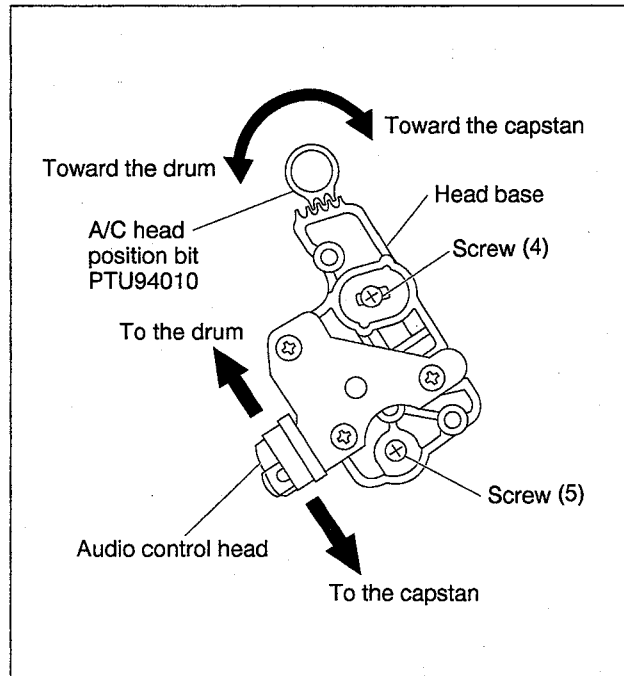

Fig. 2-4-6
- (1) Connect the oscilloscope to TP106(PB FM/COL) of the main board assembly and to TP111(D.F.F) of the main board assembly for external sync connection.
- (2) Play the alignment tape MHPE and observe the FM waveforms.
- (3) Press the channel buttons (+) and (-) buttons simultaneously during playback to enter the manual tracking mode (This also brings tracking to the center.)
- (4) Loosen screws (4) and (5) so that the A/C head position bit (PTU94010) is set as indicated in Fig.2-4-6.
- (5) Turn the A/C head position and first move the audio control head fully up to the capstan head. Then gradually return the audio control head toward the drum and stop it where the FM waveform reaches its maximum for the first time. Then tighten screw (4) temporarily.
- (6) Then play the alignment tape MHPE-L.
- (7) Press the channel buttons (+) and (-) buttons simultaneously during playback to enter the manual tracking mode (This also brings the tracking to the center.)
- (8) Perform the tracking operation and make sure that the FM waveform is at its maximum.
- (9) If it is not at maximum, loosen the temporarily tightened screw (4) and turn the A/C head position bit to bring the audio control head to a position, around where the waveform reaches its maximum for the first time. Then tighten screws (4) and (5).